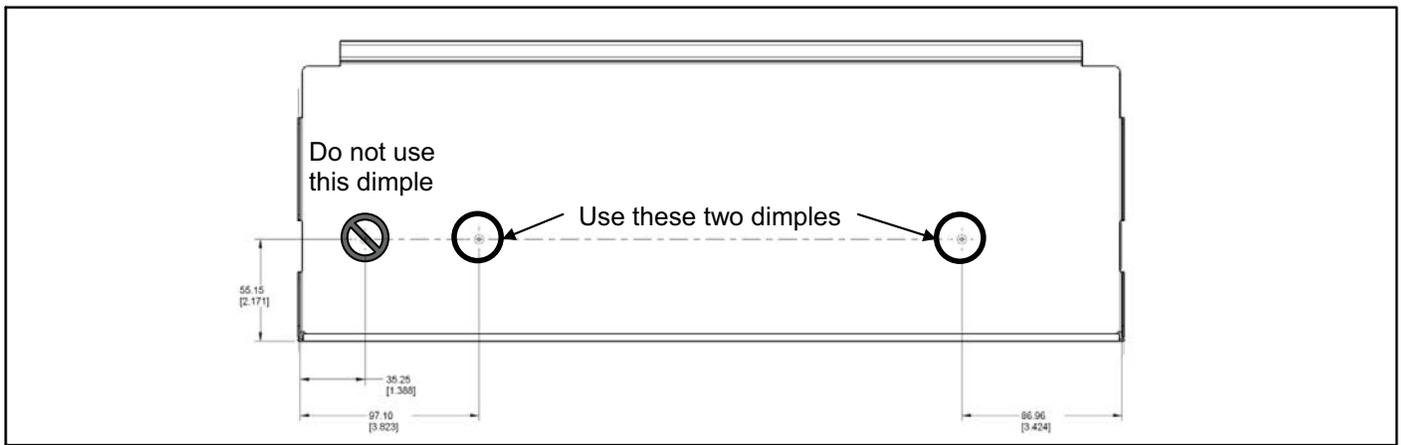

Figure 3 – Bottom Plate Dimple Location
**NOTE:** Do not drill a hole using the dimple that is located 1 3/8-in. (35mm) from the side of the furnace. Figure 3 shows which dimples to use.